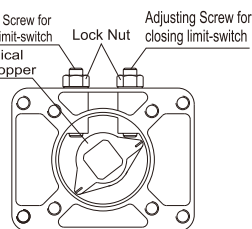

Fig.8
4.Adjustment of Mechanical Limiting Stopper (Fig. 8, 9)
- ① Drive the valve to the Full- Close Position by handle and make the Full-close Position Limit-switch move (When the Limit Switch moves, you can hear a sound of “click”).
- ② Loosen the lock nut on the right side and turn clockwise the adjusting screw for closing limit-switch by means of inner hexagon spanner and make the adjusting screw to contact with the mechanical stopper, and then turn back the adjusting screw anti-clockwise for half of ring, make the mechanical limit-switch at the Full-close position be delayed with 2.5° angle distance to the Electric Limit-switch and then fasten the lock nut.
- ③ Use the same method to make the adjustment of Full-open position mechanical limit-switch (on left side).